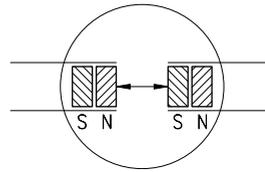

Fig. 10: Determination of the pole position. Joining the magnetic strip
- Check polarity before joining the two parts. Both ends must attract each other (if necessary, use compass needle). In case both ends have the same polarity, shorten one end by a half pole division (fig. 10).